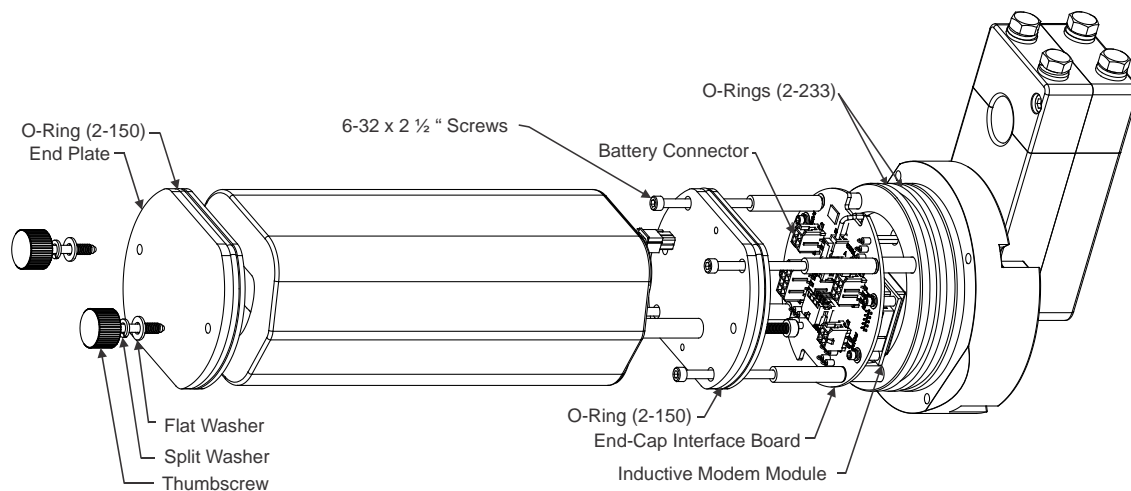
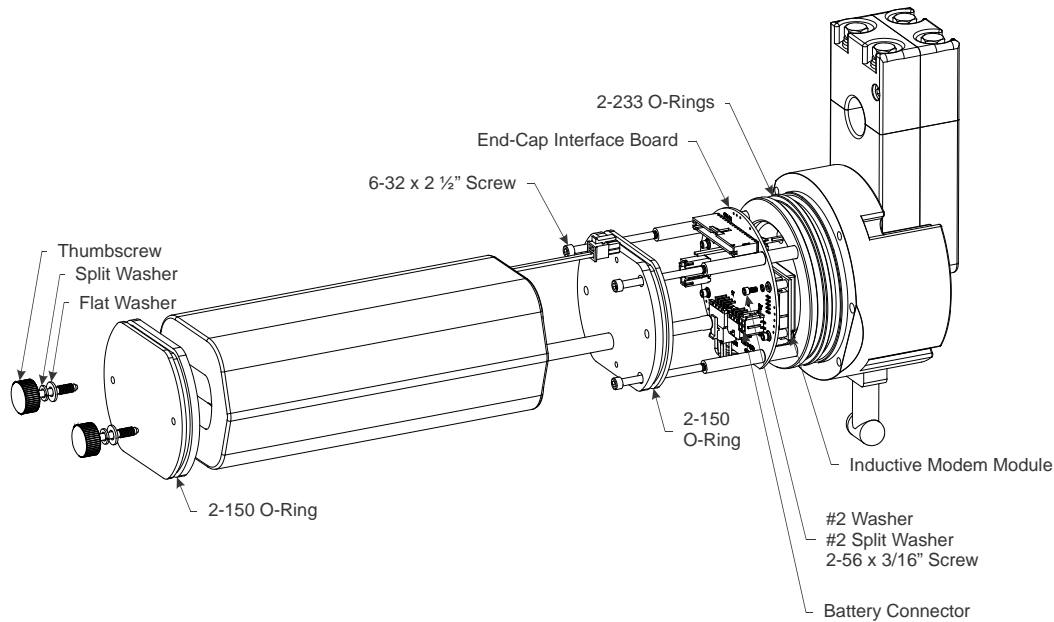

Figure 43. End-Cap Interface Board (Phase I DVS)
Figure 44. End-Cap Interface Board (Phase II DVS)
3. Place the End-Cap Interface board onto the standoffs. See Figure 43 and Figure 44 to orient the board correctly.